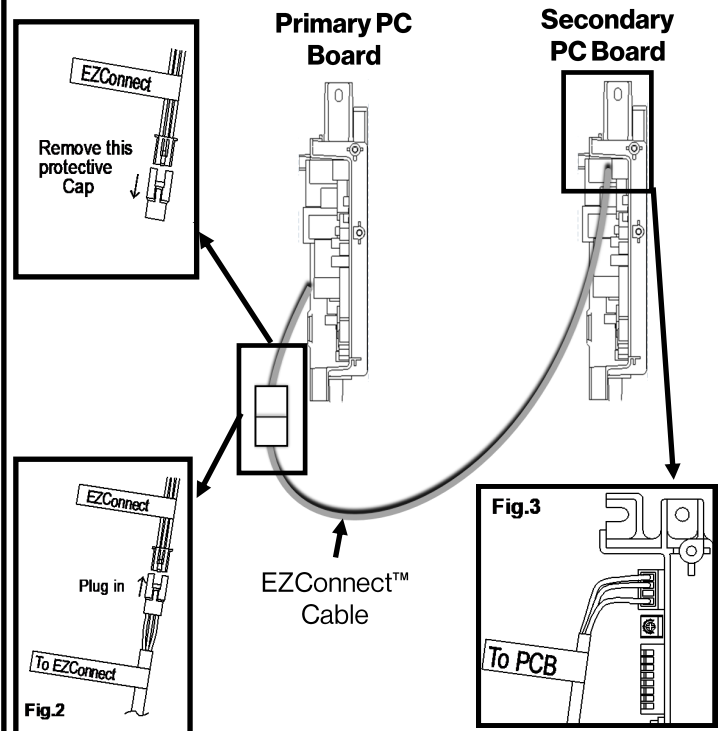

Figure 5: PC Board Assembly
2. Remove the protective cap from the 3 pin connector marked "EZ Connect" located in the wiring harness of the Primary Unit (Figure 5).
3. Install the EZConnect™ Cable by plugging in the cable on both the Primary and Secondary units (Figure 5).